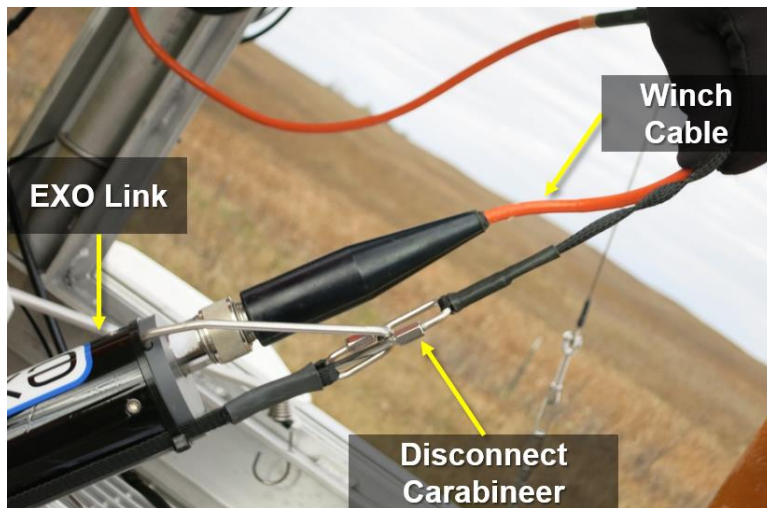

Figure 37. Disconnect Multisonde from the Lake Buoy Winch
7. Disconnect the Multisonde with EXO Link from the winch by disconnecting the carabineer connecting to the winch and EXO link (see Figure 37).